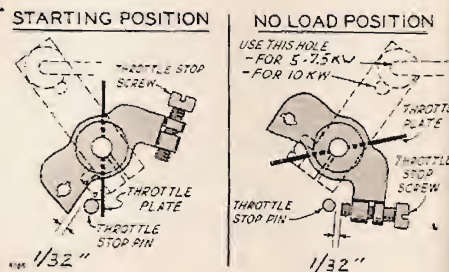

Fig. 18 Throttle Lever and Stop P
1. With the plant stopped, check the clearance of the carburetor throttle stop lever. The clearance between the lever and stop pin should be approximately 1/32", Fig. 18. This clearance can be adjusted by loosening the linkage ball joint and turning the ball joint on the linkage threads as necessary to lengthen or shorten the over-all length of the linkage. Be sure that the lever to which the link connects is securely